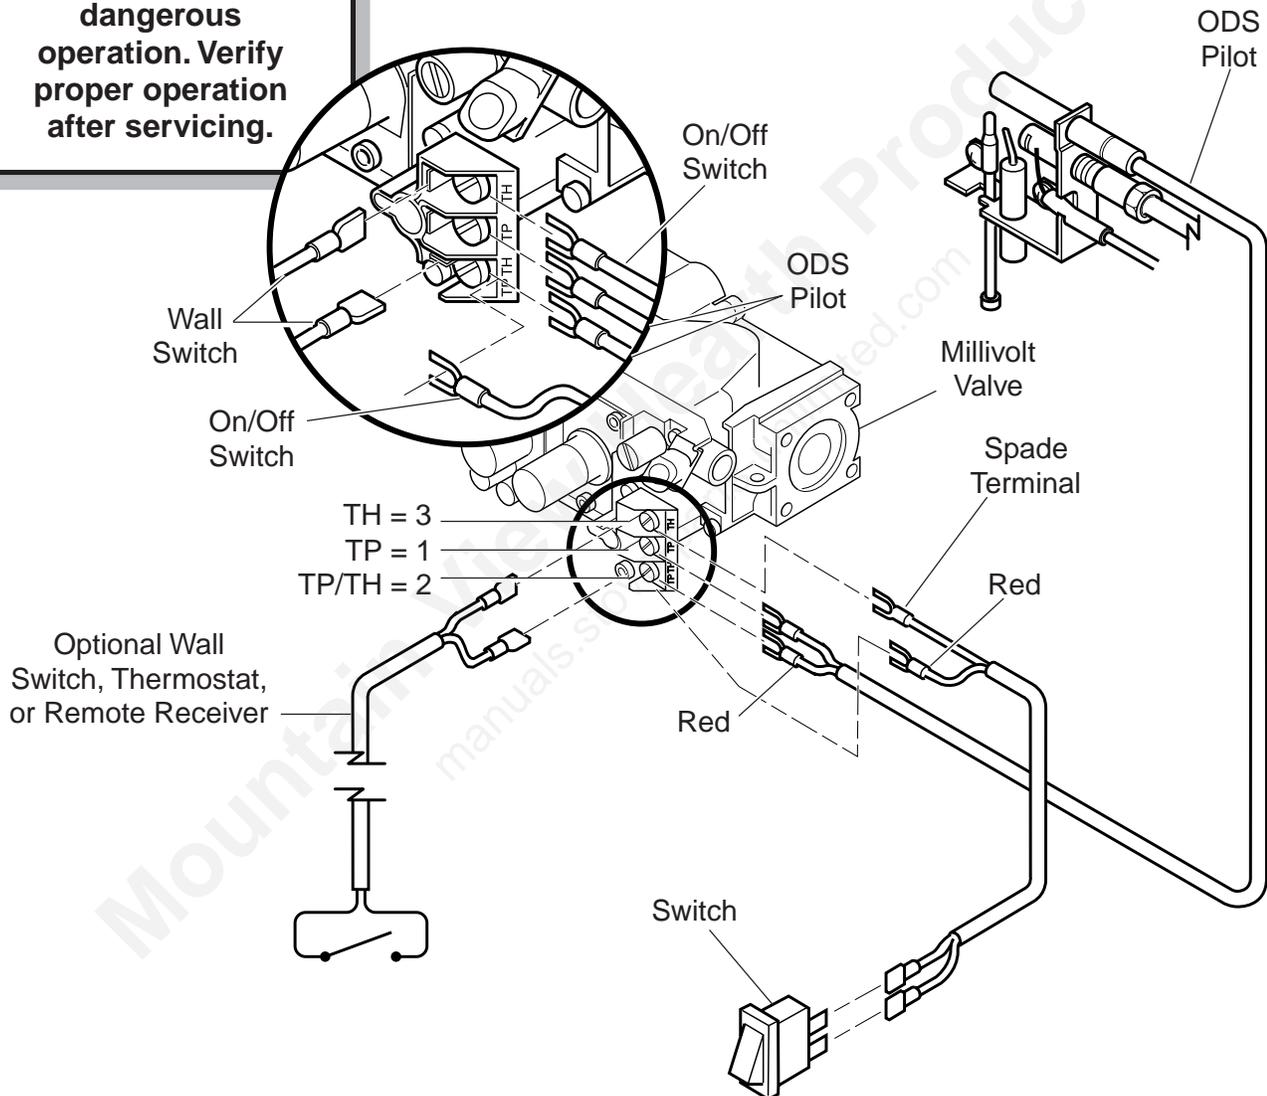

Figure 32 - Wiring Diagram
5. Connect the connectors to the terminals labeled TH/TP and TH on the millivolt valve. (See Figure 32, page 20). Do not let wire touch grate or front burner.